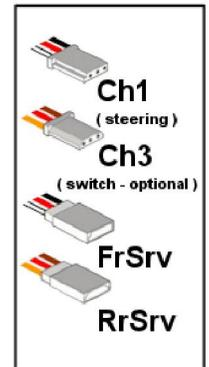
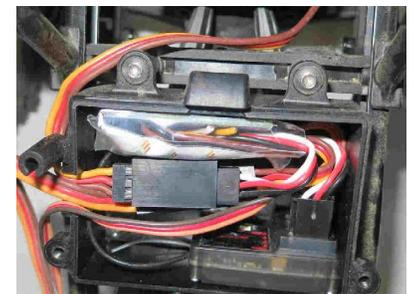

Figure 1 – plug diagram
Figure 2 – Example of QuadSteer installed with receiver in an Axial
- ✓ Plug in the QuadSteer as indicated in Figure 1 (which is also printed on the QuadSteer controller). If you are using a 2 channel radio than simply leave the '3Ch' lead unplugged. The QuadSteer will automatically detect this and enable 'wheel wiggle' ... more on wiggle later. We recommend installing the QuadSteer with the receiver, in most cases it will fit inside the box with the receiver as shown in Figure 2.